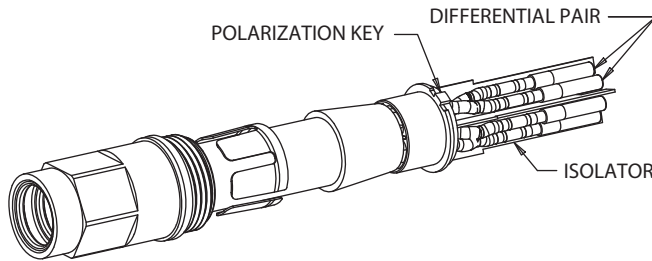

FIGURE 3
- Insert each pair of wires into the appropriate quadrant on the isolator according to figure 3 for socket modules, and figure 4 for pin modules.